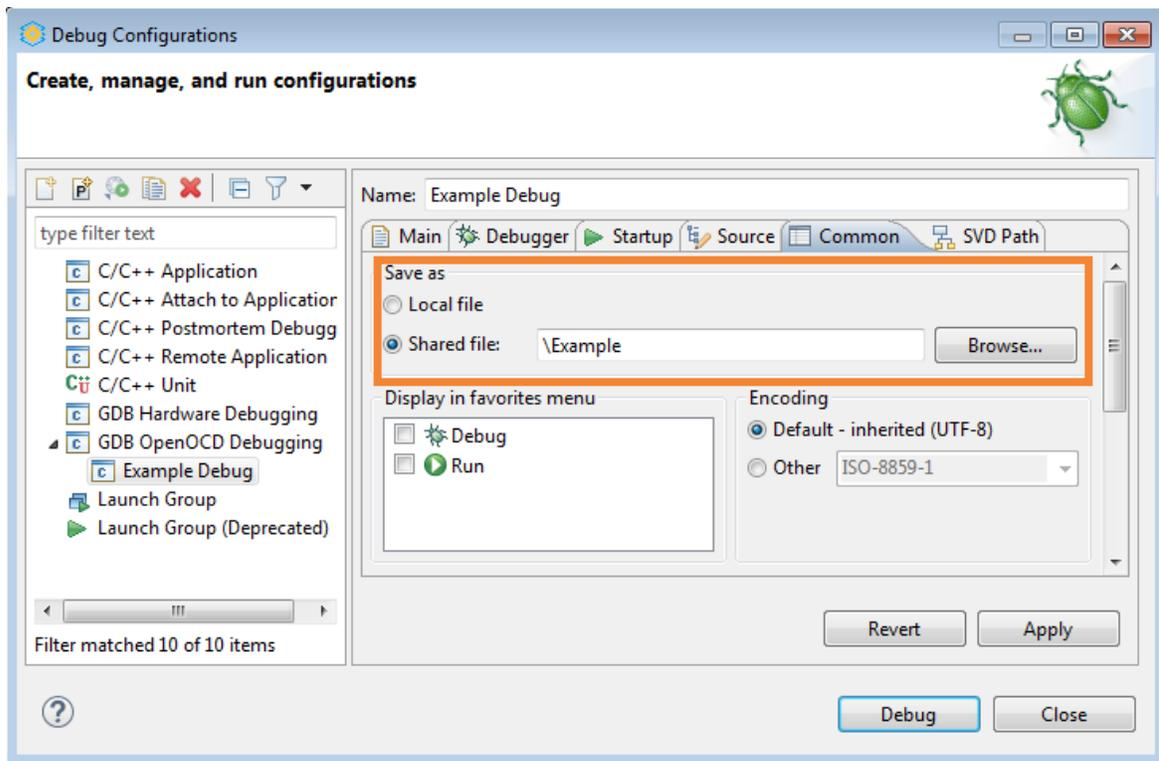

Figure 3.26 Common Tab of Debug Configurations
- (Optional) Select the **Common** tab (Figure 3.26). The **Save as > Local file** option is selected by default. This causes the debug launch configuration to be saved into the workspace.